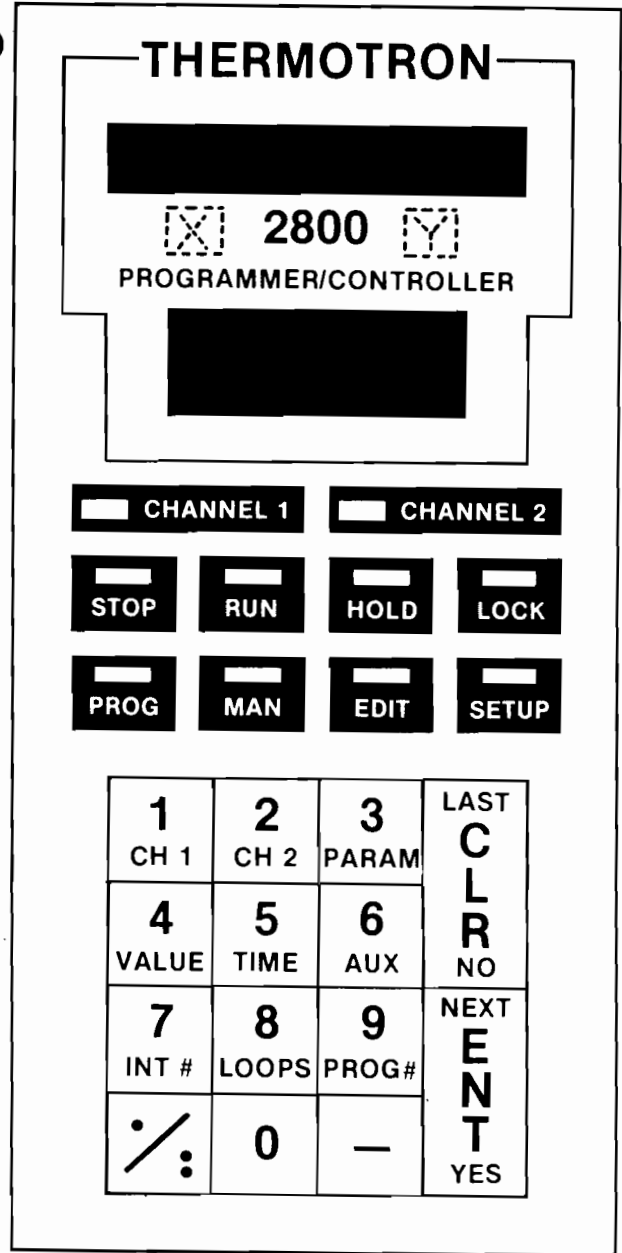

FIGURE 9
1. Press the **LOCK** key. The display shows ENTER KEY. See Figure 9.
2. Press the **X** key hidden just above the letters OGRA between the two displays. See Figure 9. The alpha display shows **-XXX-**.
3. Press the **Y** key hidden just above the letters TROL between the two displays. See Figure 9. The alpha display shows **-XXX-YYY-**.